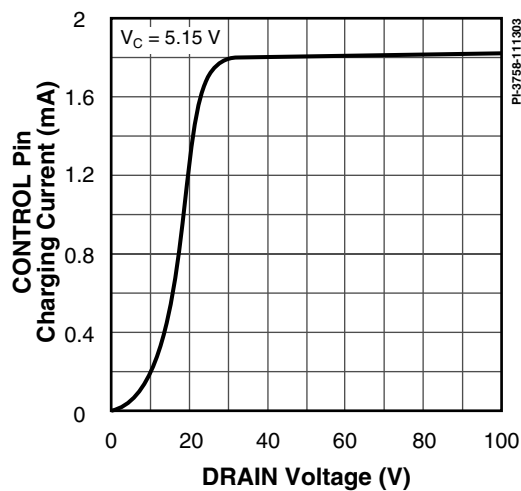

Figure 16. I_C vs. DRAIN Voltage.
- It is possible to start up and operate *LinkSwitch* at DRAIN voltages well below 36 V. However, the CONTROL pin charging current is reduced, which affects start-up time, auto-restart frequency, and auto-restart duty cycle. Refer to the characteristic graph on CONTROL pin charge current (I_C) vs. DRAIN voltage (Figure 16) for low voltage operation characteristics.